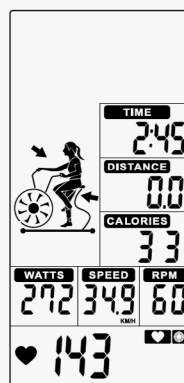

Figure 49
6. When Heart Rate goes between 65% ~ 85%, only will flash (Figure 49).